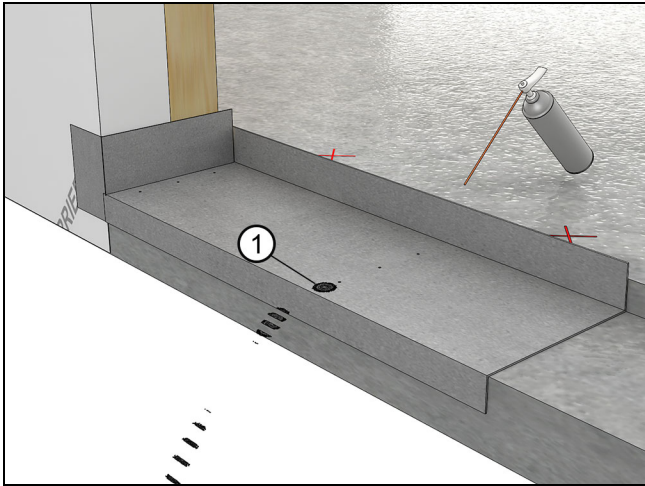

Figure 7
3. Remove the sill slope from the slot and blow out the holes with compressed air. See Figure 7.